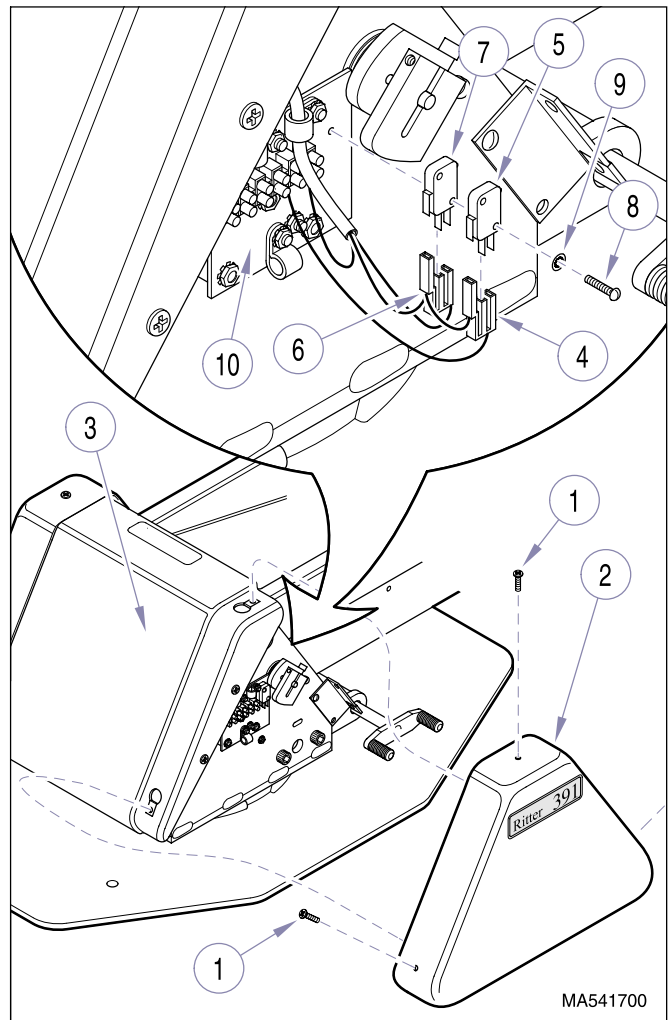

Figure 4-14. Base Up & Base Down Limit Switch Removal / Installation
- (1) Unplug chair power cord from wall outlet receptacle.
- (2) Remove three screws (1, Figure 4-14) and R.H. base cover (2) from center base cover (3).